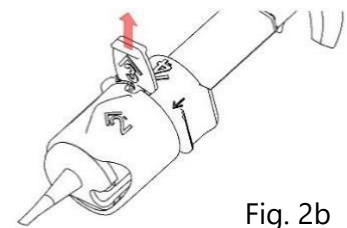

Fig. 2b
6. Remove the red stopper indicated with '3' by pulling, and discard it (Fig. 2b).